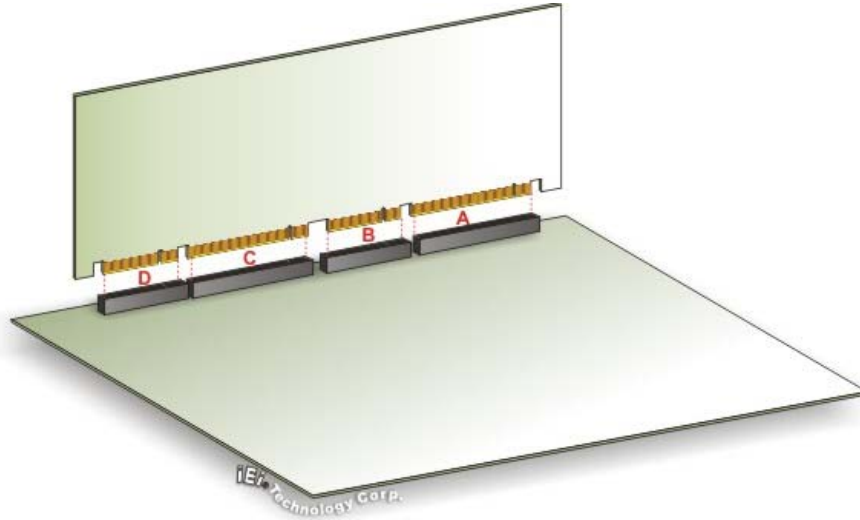

Figure 4-25: SPCIE-5100DX Installation
Step 1: Align the edge connectors. Align the four edge connectors (labeled A, B, C and D in **Figure 4-25**) on the SPCIE-5100DX with the corresponding connectors on the PICMG 1.3 backplane. See **Figure 4-25**.